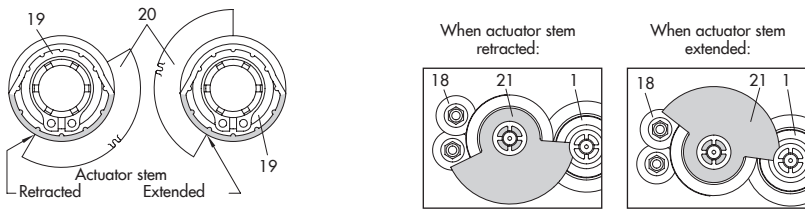

Fig. 5-6: Alignment of contact cam to the cam holder Fig. 5-7: Alignment of the contact cam unit
3. Slide adjustment gears (18) onto their spindles and fasten with one screw each. Check whether the adjustment gears can be turned easily. If not, slightly loosen its screw again.
4. Align the contact cam unit (21): To do this, turn both contact cams (19) on the cam holder (20) as illustrated in Fig. 5-6 corresponding with the position of the actuator stem.